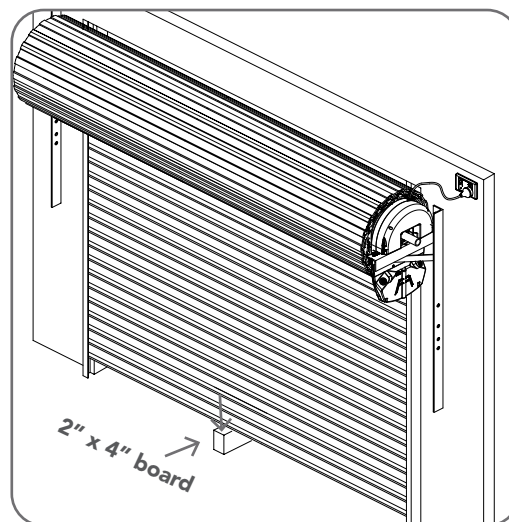

Fig 6.6.1
- Place a piece of timber approximately 40mm high on the floor directly under the door (Fig. 6.6.1).